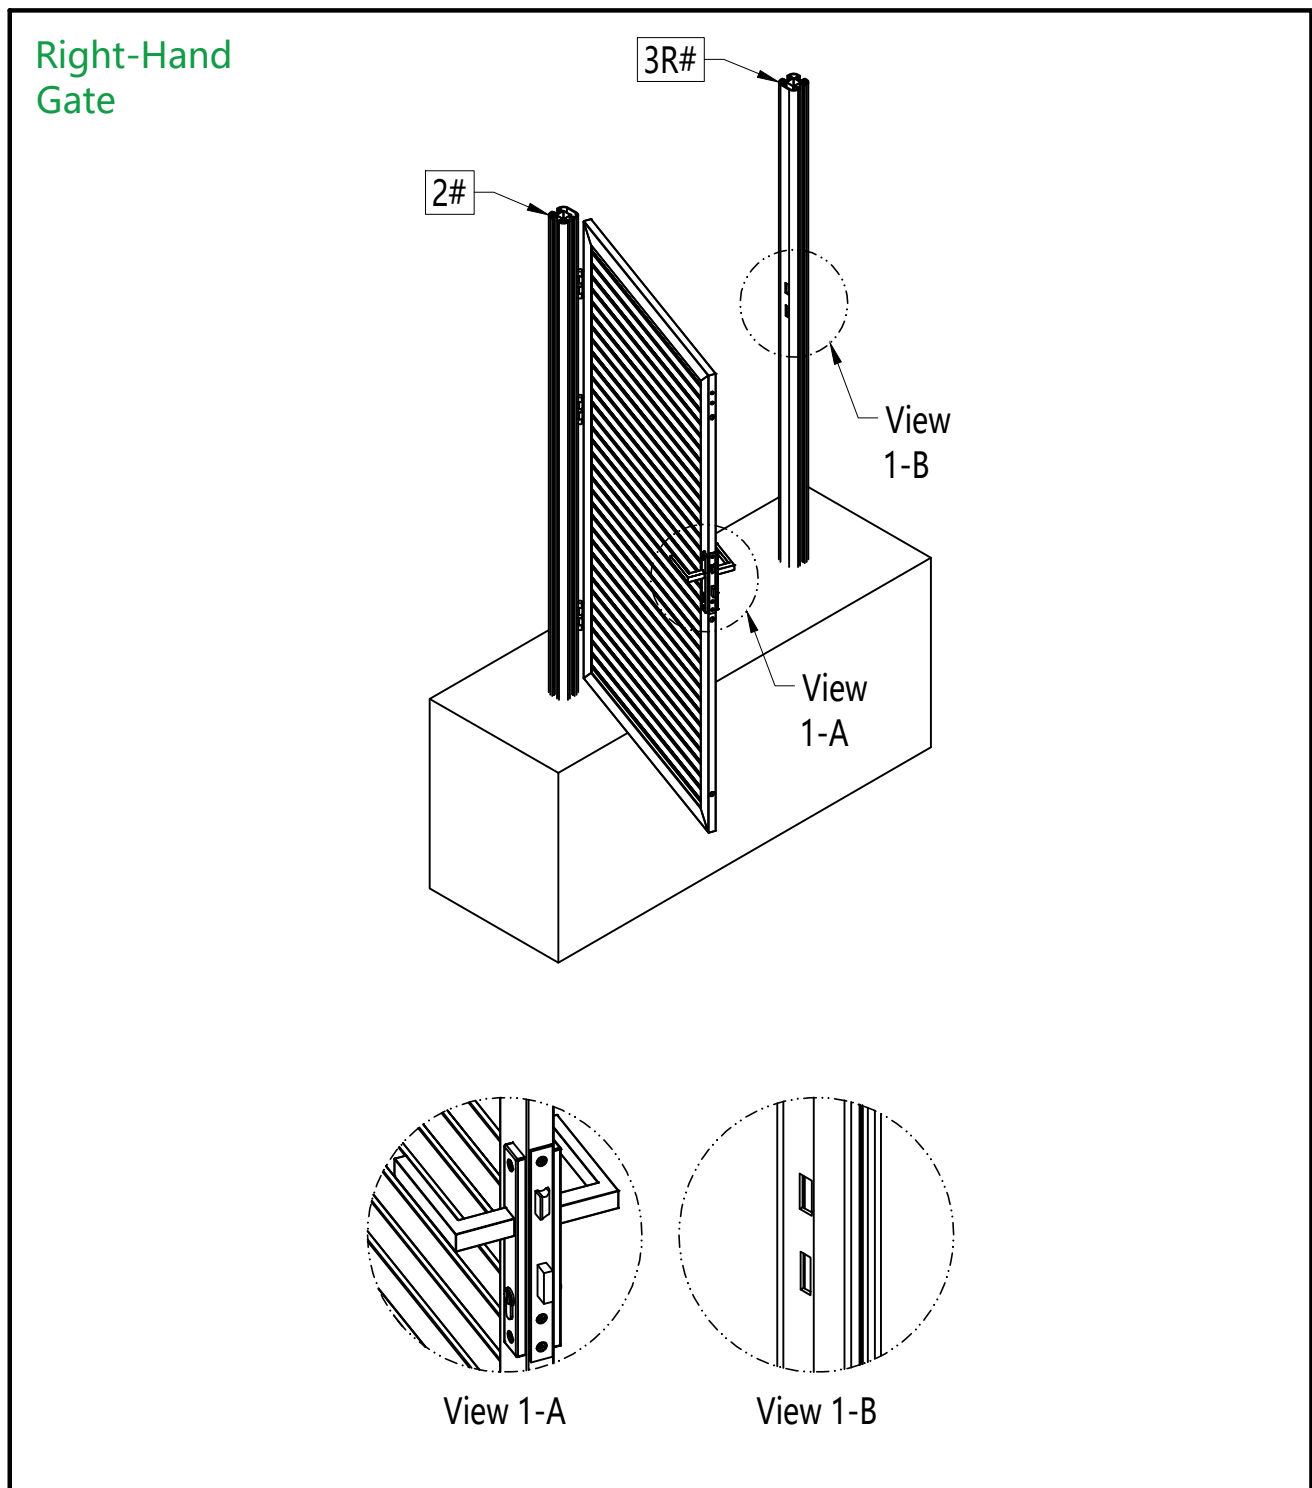

Figure 1
- 1 Gate opening direction as shown in Figure 1.